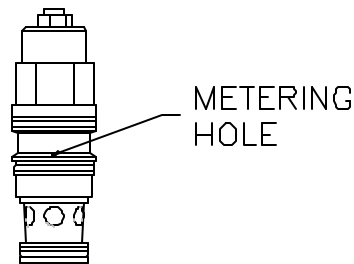

Fig. 5
3. Remove the counterbalance valve from the counterbalance block and inspect the small metering hole located on the side of the cartridge valve to make sure it is not obstructed (See Fig. 5). Also, inspect the O-rings to insure that they are not cut or flattened. Replace if necessary.